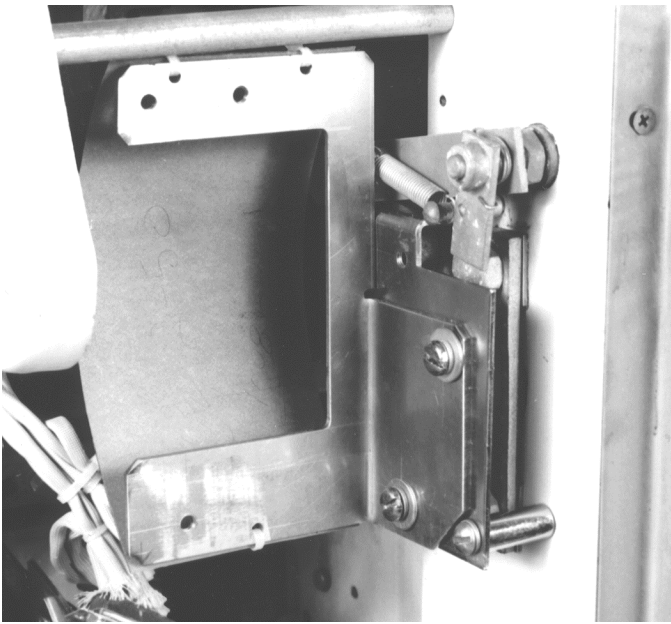

Figure 13. Trip unit mounting bracket attached to the mounting plate.
3. Attach the trip unit mounting bracket to the plate with two screws, lock washers, and flat washers, as shown in Figure 13.